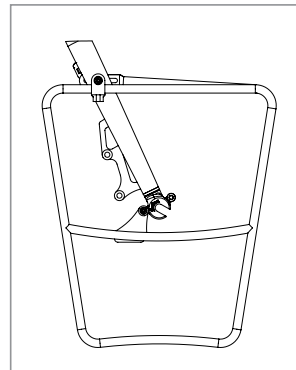

Figure 3
3. Make sure the rack is parallel to the ground when the front wheel is installed and the bike is sitting on the ground (fig 3).
8. With the front wheel installed, double-check the rack positioning. Again, the top of the rack should be parallel to the ground (fig 3).